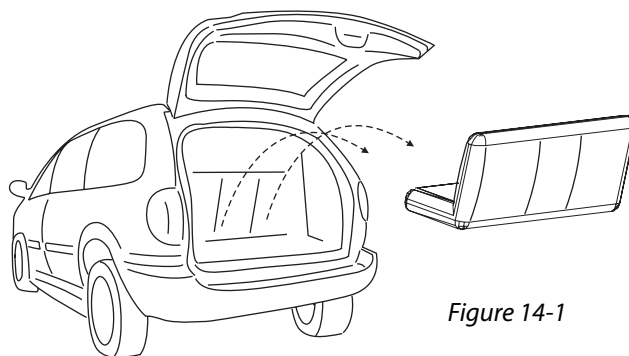

Figure 14-1
1. Remove 3rd Row Seating. [Figure 14-1]